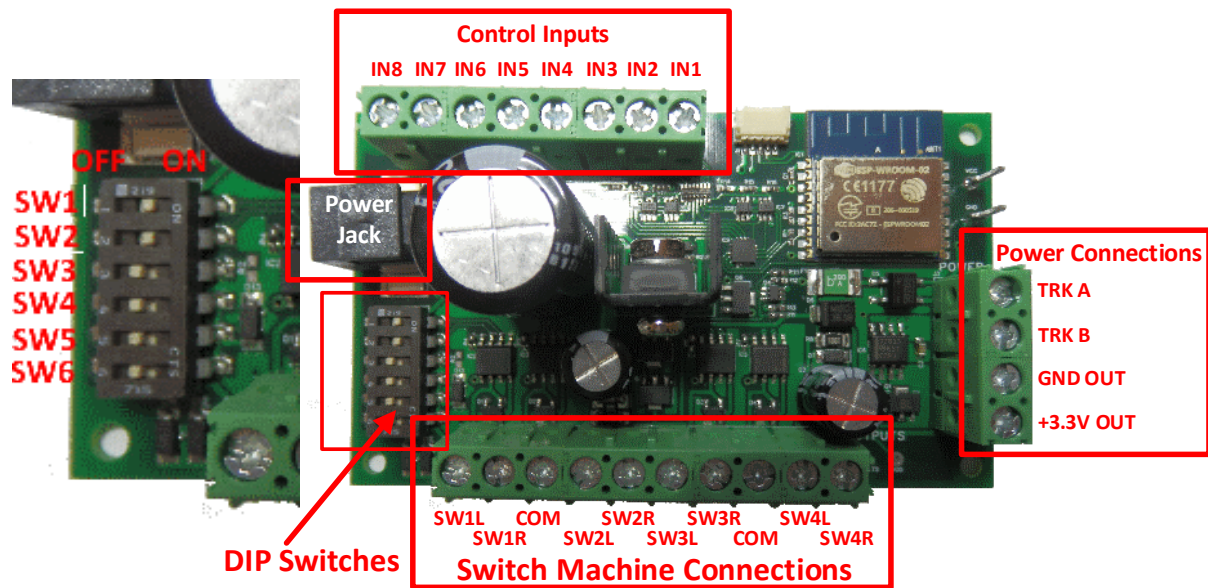
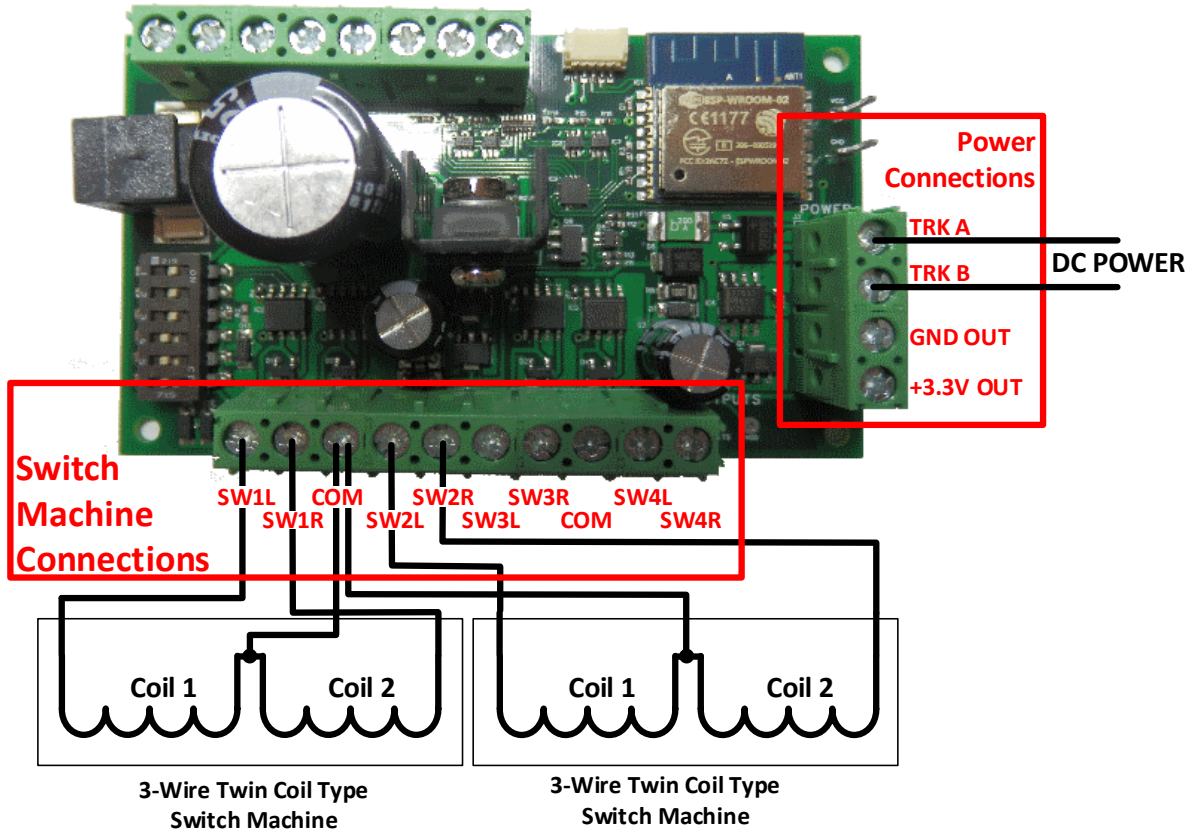
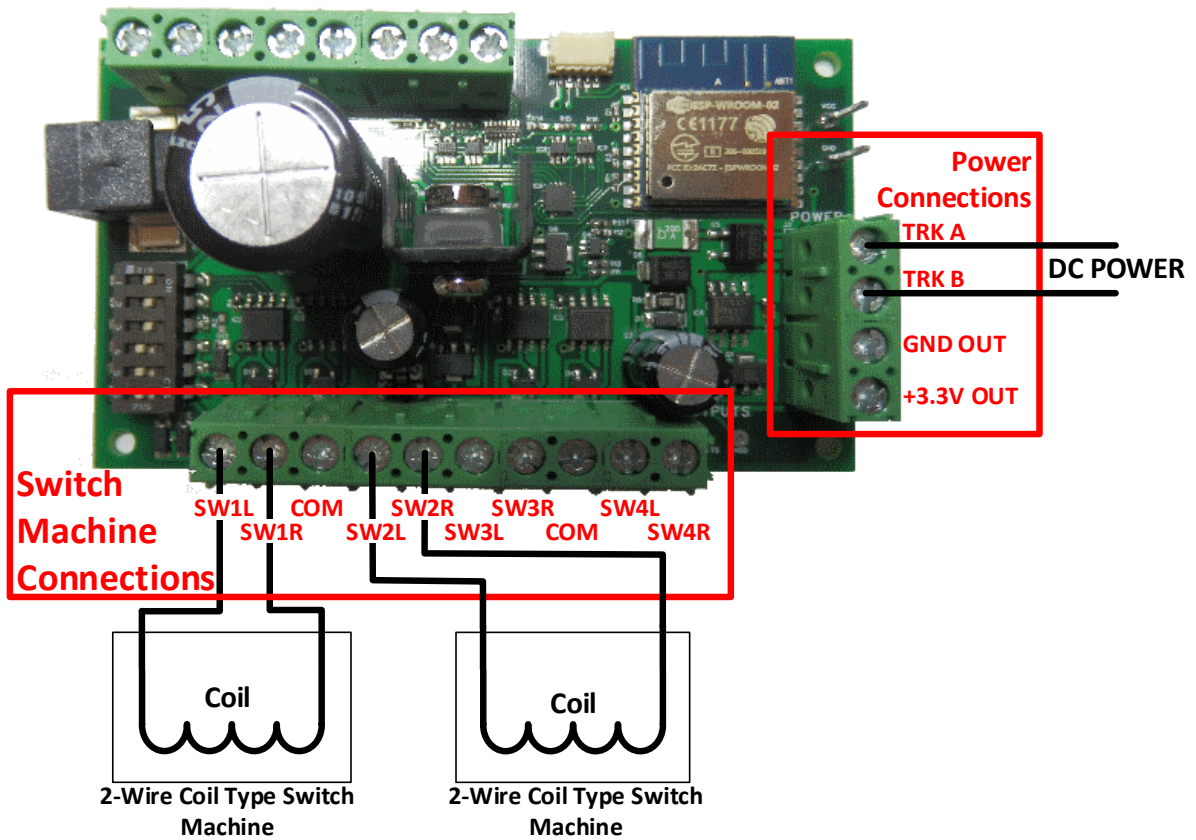
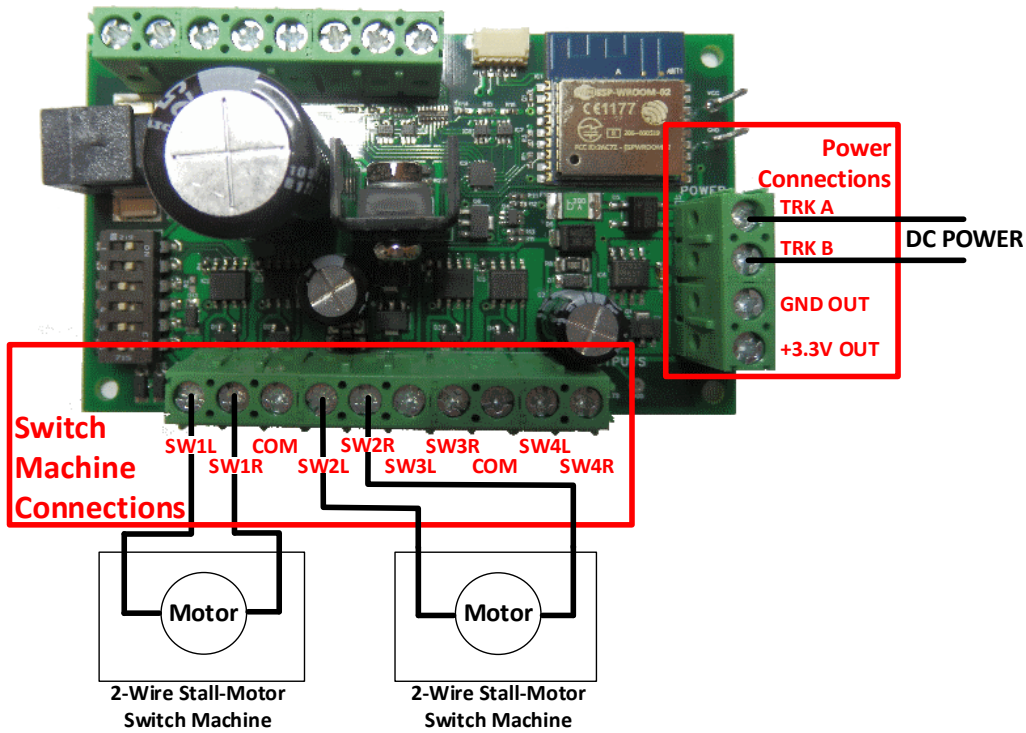

Figure 1. WFS-46 Connections
Figure 2. Connection Diagram for 3-Wire Twin Coil Switch Machines
Figure 3. Connection Diagram for 2-Wire Coil-Type Switch Machines
Figure 4. Connection Diagram for Stall Motor Switch Machines
- (1) First determine what kind of switch machines you wish to control. WFS-46 will control three basic types: 3-Wire Twin Coil, 2-Wire Coil-Type (Bipolar) and Stall Motor. **Any one WFS-46 module can control EITHER Stall Motor OR Coil-type but not both.**
- (2) Figure 1 shows the WFS-46 module with its connections and switches labelled. Configure the switches on your module for your choice of switch machine type as in Table 1 and Table 2. Please take great care that SW3 is in the correct position – ON only for coil-type solenoid switch machines, OFF for stall motor like Tortoise. **If you connect the wrong type, you may damage either the switch machine or the WFS-46. Do not change any switch without first switching off the power!**
- (3) Configure switches SW4, SW5 and SW6 to provide the best output voltage for your switch machine. Some switch machines – Tortoise, for example – require that no more than 12 Volts be used.
- (4) Wire your module to the switch machines as shown in Figure 2 , Figure 3 and Figure 4. A WFS-46 can control four switch machines. You can use each channel or leave it unconnected. You can mix 3-Wire and 2-Wire Coil-type Switch Machines on the same unit, but if you choose the stall-motor settings, all channels must be connected to stall-motor machines or left unconnected.
- (5) Connect power to your unit either at the Power Jack or at TRKA and TRKB as shown in Figure 2 , Figure 3 and Figure 4. It does not matter which way round you connect the power. You can also use DCC track power but NOT AC. The power should be between 12 and 18 volts. As an alternative to the TRKA and TRKB connections, you can connect a power adapter to the Power Jack marked in Figure 1. The power adapter must supply between 12 and 18 Volts DC with a Barrel Plug (2.5mm I.D. x 5.5mm O.D. x 9.5mm). A recommended power adaptor is available from WifiTrax: